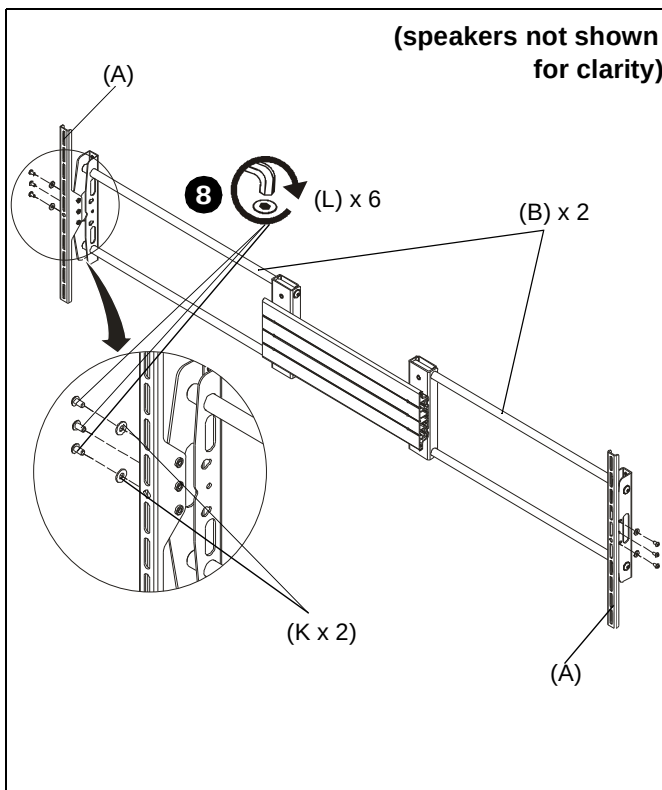

Figure 12
8. Use six #10-24 x 3/8" button head cap screws (L) and four #10 washers (K) to secure two speaker brackets (A) to two rail extensions (B). (See Figure 12)